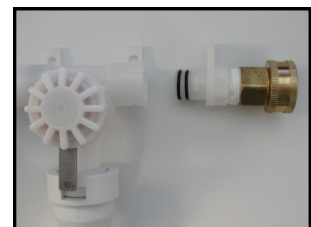

Figure 4
- (1) Remove the brass inlet fitting from the right side by turning it counter-clockwise (Figure 4).
- (2) Remove the plastic plug from the left side by turning it counter-clockwise.
- (3) Insert the brass inlet fitting into the left side by turning it clockwise until hand-tight and the flats are aligned.
- (4) Insert the plastic plug into the right side by turning it clockwise until hand-tight and the flats are aligned.